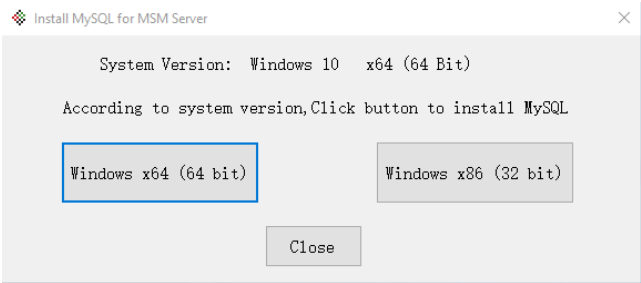

Figure 10
12. If MySQL is not already installed, the MySQL installation window will appear. (Figure 10) See Appendix A of this manual for MySQL installation & configuration information.